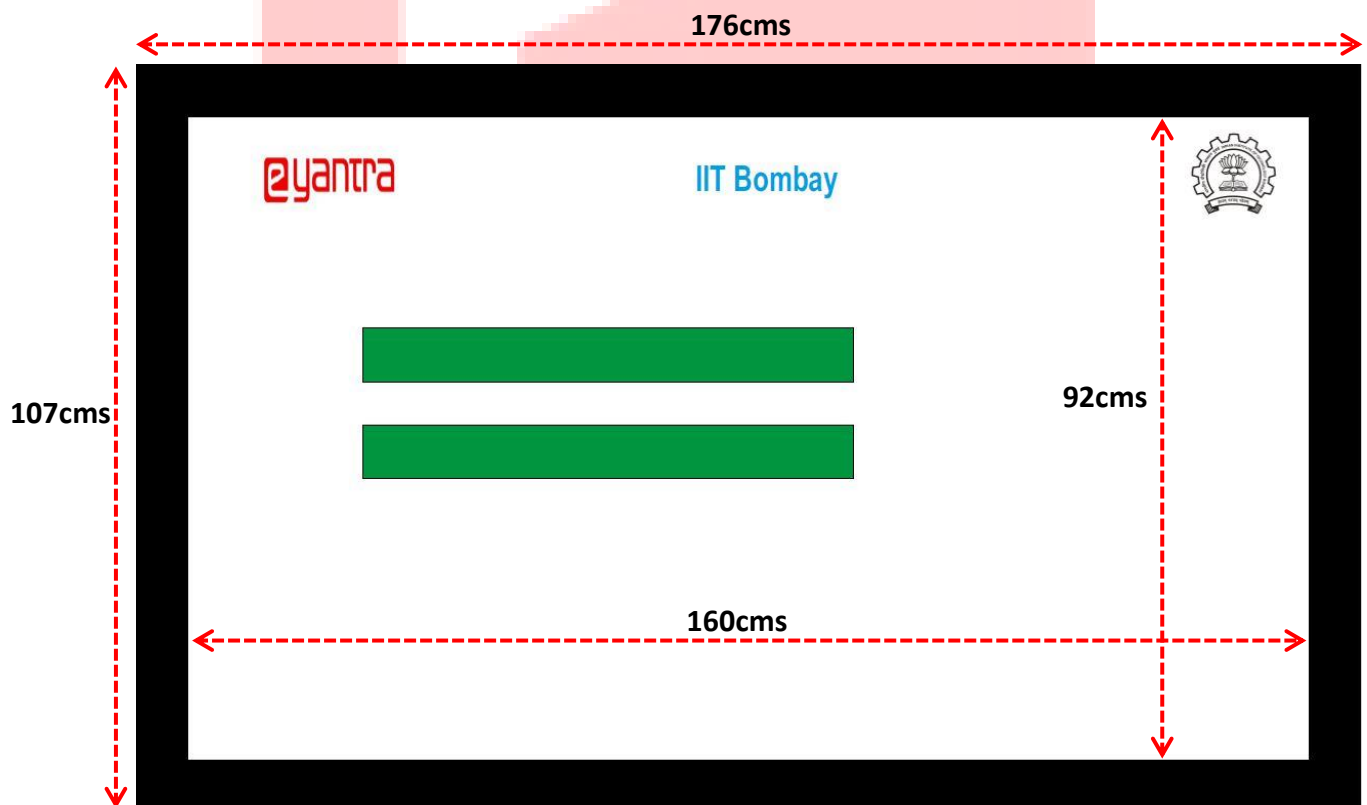

Figure 4: Base Arena
- Base Arena:** is of dimensions 176cm x 107cm as shown in Figure 4.